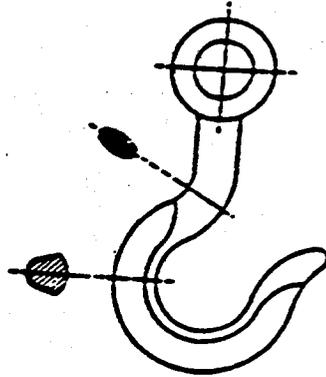

Fig 1-28. Removed section.
- (5) Removed section. Removed sections are normally used to illustrate particular parts of an object (fig 1-28). They are drawn like the revolved section, except that they are placed at one side to bring out important details. They are often drawn to a larger scale than the one used on the view where they are illustrated.